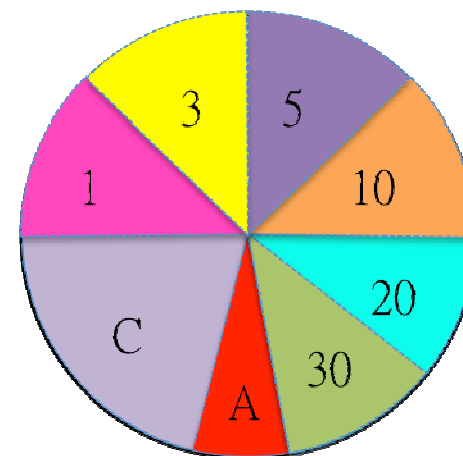

Fig. 3 Timer Table
The full color LED will turn from green to red according to the percentage from 0% to 100%. (shown in Fig 3.)
- B. The full color LED will flash once every 10 seconds and the color will depend on time table (shown in Fig 3.)
3. Setting up timer: Pointing the arrowhead to the zone you want to count down (shown in Fig. 3). The countdown will begin after you pressing the button and sound beep.